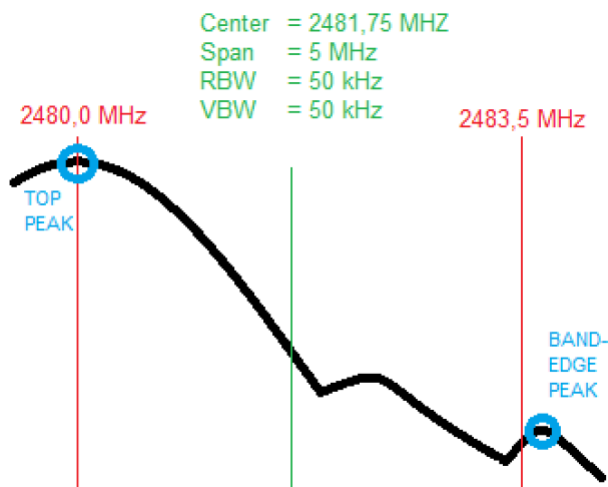

Figure 13. Band-Edge Setup
- Choose a spectrum analyzer that encompasses both the peak of the fundamental emission and the band-edge emission under investigation (for example, 2483.5 MHz, edge in Figure 13).